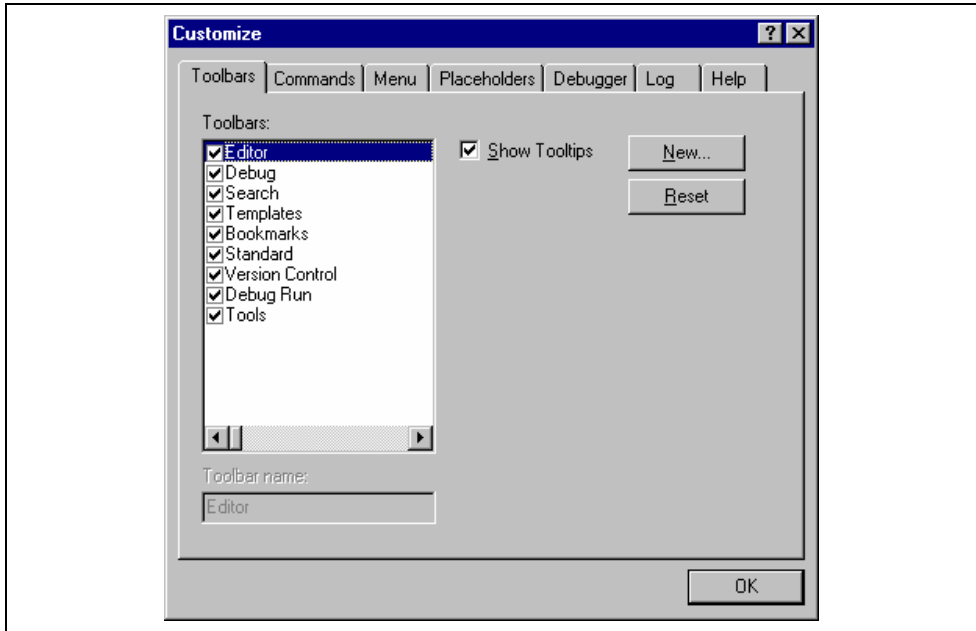
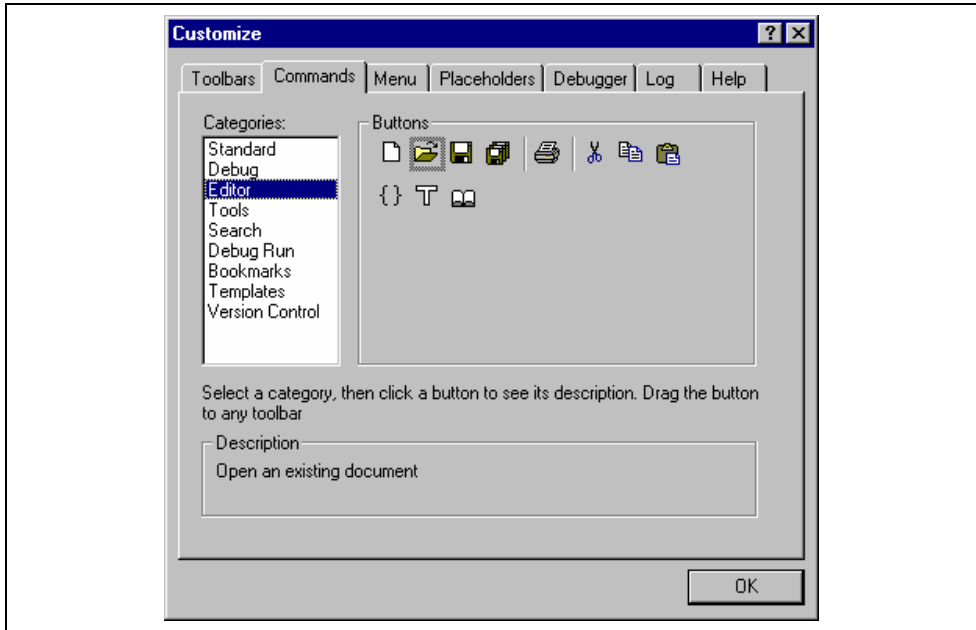
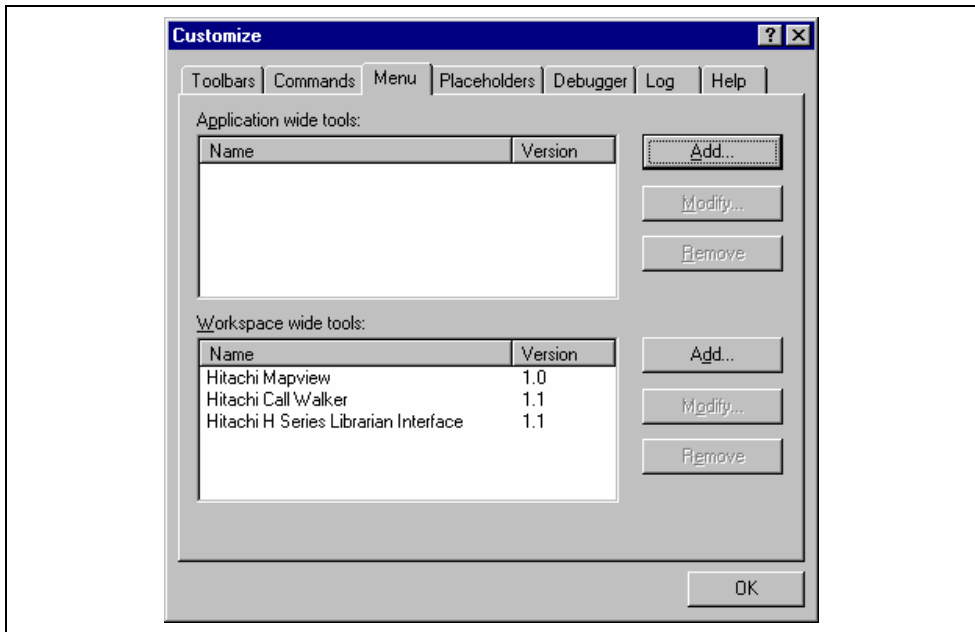
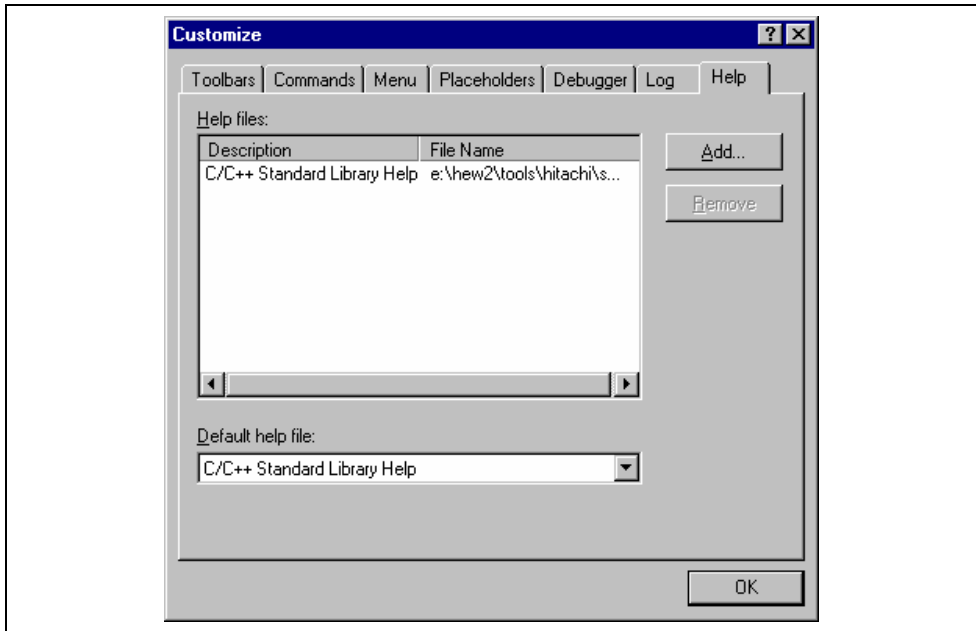

Figure 6.1: Customize Dialog Toolbars Tab
Figure 6.3: Customize Dialog Commands Tab
Figure 6.4: Customize Dialog Menu Tab
Figure 6.7: Customize Dialog Help Tab
The High-performance Embedded Workshop provides 2 standard toolbars as detailed in chapter 1, “*Overview*”. In addition to these, you may also construct your own toolbars via the “Customize” dialog (figure 6.1).
1. Select [**Tools->Customize...**]. The dialog shown in figure 6.1 will be displayed.
1. Select [Tools->Customize...]. The dialog shown in figure 6.1 will be displayed. Select the “Commands” tab (see figure 6.3).
1. Select [**Tools->Customize...**]. The dialog shown in figure 6.1 will be displayed. Select the “Commands” tab (see figure 6.3).
2. Select the user-defined toolbar from the “Toolbars” list, and the “Reset” button in figure 6.1 changes to the “Delete” button. Then click the “Delete” button.
1. Select [**Tools->Customize...**]. The dialog shown in figure 6.1 will be displayed. Select the “Menu” tab (see figure 6.4). The first thing for you to decide is whether you are adding a global application wide tool (“Application wide tools:”), which will be available to all of your workspaces. Or whether you wish to add a workspace wide tool (“Workspace wide tool:”), which is only valid for the current workspace. Once you have made the choice choose the relevant section of the dialog.
1. Select [**Tools->Customize...**]. The dialog shown in figure 6.1 will be displayed. Select the “Menu” tab (see figure 6.4).
1. Select [**Tools->Customize...**]. The dialog shown in figure 6.1 will be displayed. Select the “Help” tab (see figure 6.7).